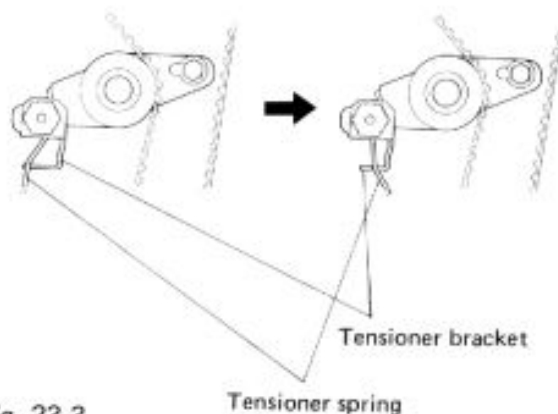

Fig. 23-3
- 2) Remove a part of the tensioner spring from tensioner bracket as shown Fig. 23-3 and loosen the bolt and the nut securing the tensioner, and then remove the camshaft timing belt.